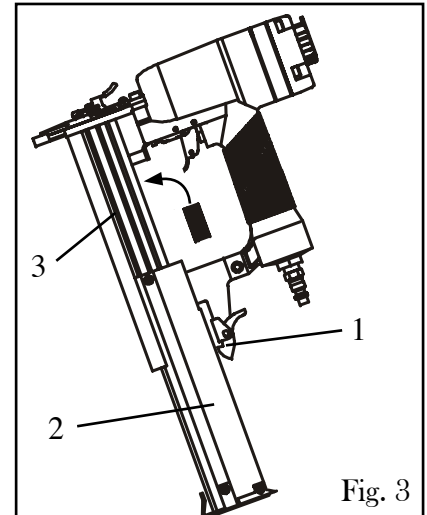

Fig. 3
LOADING THE FASTENERS (Fig. 3)
1. Depress the Lock (Fig. 3 - 1) to release the Movable Magazine (Figure 3 - 2) and pull the magazine out fully.
2. Place a full clip of the specified type and size fasteners on the Fixed Magazine (Fig. 3 - 3), 100 fasteners may be loaded in the magazine.
3. Push the Movable Magazine Assembly (Fig. 3 - 2) forward until it is locked.